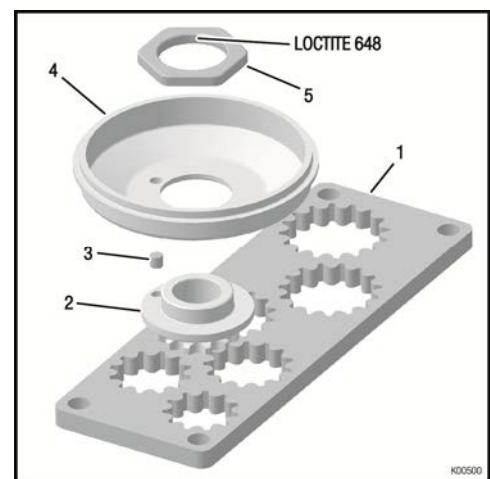

Fig. 4
- ◆ **Note:** For the chain sprocket with 11 teeth, use the plain bearing (pos. 9) instead of the needle cage (pos. 10). The plain bearing has to be pressed flush into the bore of the chain sprocket with chamfered end leading.
- If not absolutely necessary on a certain track, try not to use a chain sprocket with 11 teeth because of the heavy wear of the plain bearing (pos. 10) used only with this sprocket.
- ➔ Apply grease on needle cage (pos. 9) when using a chain sprocket with 12, 13 and 14 teeth or on plain bearing (pos. 10) for chain sprocket with 11 teeth.
- ➔ Apply LOCTITE 243 on the thread of hex.nut (pos. 14).
- ◆ **Note:** A smaller thrust washer (pos. 13) is required for the chain sprocket with 11 teeth, in comparison to the use of a chain sprocket with 12, 13 and 14 teeth.
- ➔ Fit thrust washer (pos. 13) and hex. nut (pos. 14) and tighten nut to 60 Nm / 530 in.lb.
The chain sprocket (pos. 2) is attached to the clutch drum (pos. 4) with a hex. nut (pos. 5) and torque is transmitted by a needle pin (pos. 3) (see Fig. 4). The proper changing or renewal of the chain sprocket is only feasible when using the appropriate fixture (pos. 1, part no. 277364). To change or renew the chain sprocket, proceed as follows:
- ➔ Clamp fixture (pos. 1) for the chain sprocket in a vice.